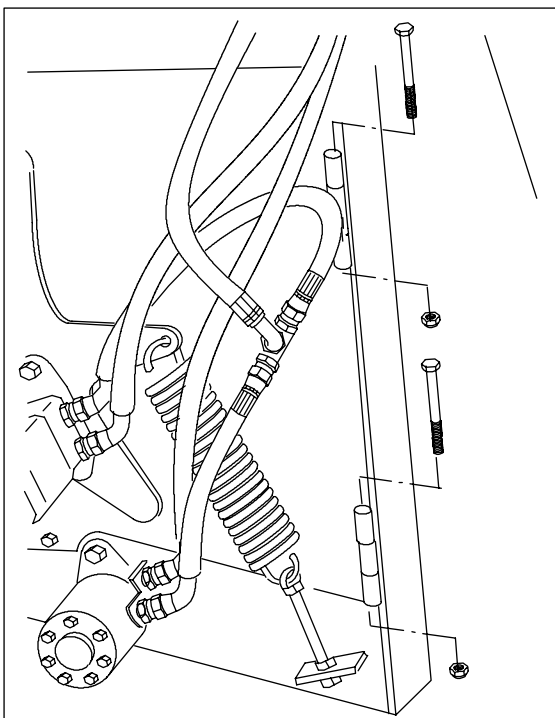
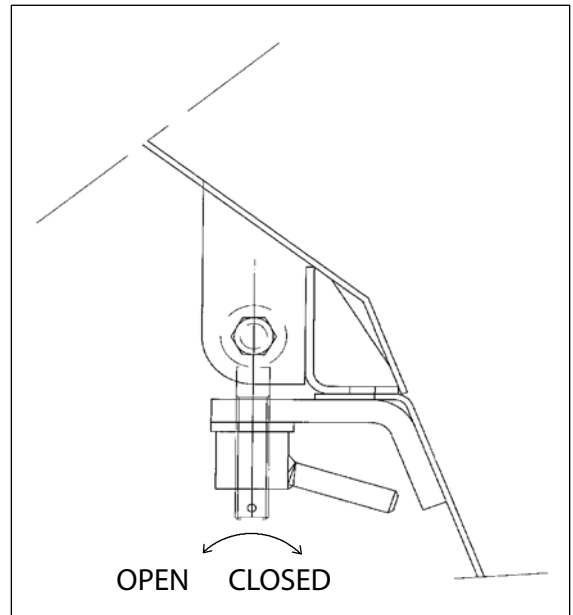

Fig. 6. Installing the hinge bolts
Fig. 7. Locking the feed chute in the operating position
3. Attach the feed hopper to the feed unit's frame using two M10x150 bolts. See fig. 6. Lock the feed hopper in its operating position. See fig 7.